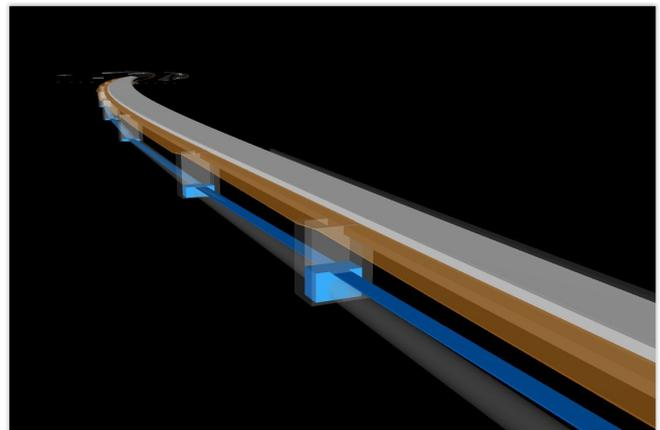

Figure 12 – Flow Width / Sag Pond / HGL Tri-Meshes
- * Output a series of trimeshes for flooded widths, sag ponds, HGLs (refer to Figure 12)